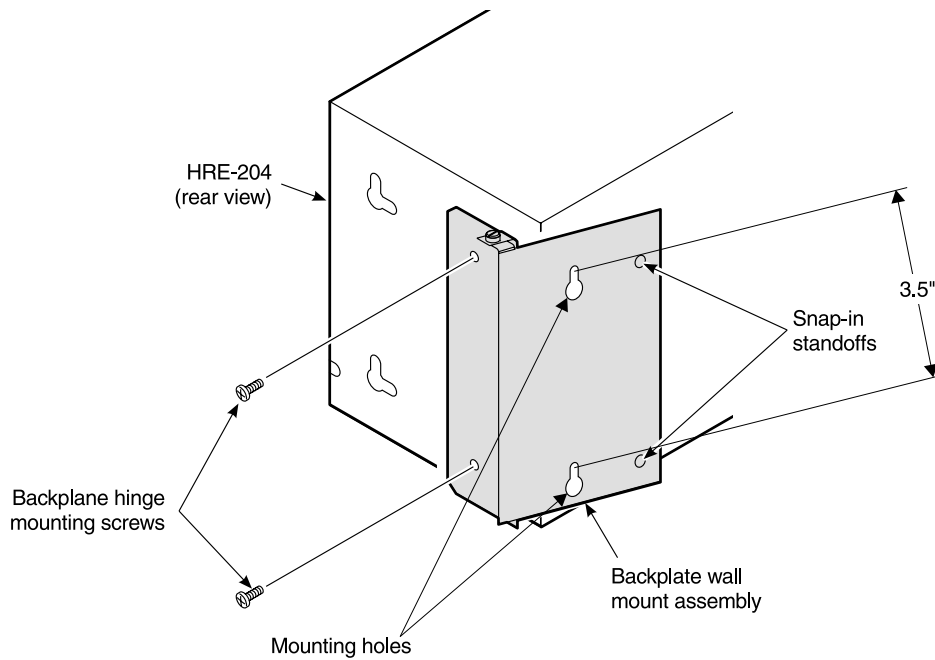

Figure 7. *Optional Mounting Hinge*
- 3 Use the two 6-32 x $\frac{1}{4}$ machine screws, also supplied with the hinge assembly to attach the hinge to the two mounting holes on the HRE-204 List 1 and List 2 backplate, as shown in Figure 7.